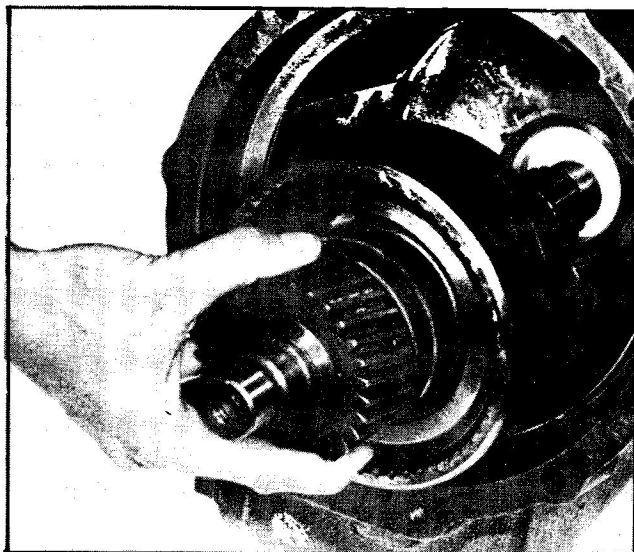

Fig. 41 Install Clutch and Output Shaft
3. Install clutch and output shaft assembly in transmission case, being careful not to damage the cast iron sealing rings as they enter the transmission case, (Fig. 41).
3. Install parts assembled in steps 8 through 14 of "Procedure for All Models" into forward and reverse transmission case and into ball bearing in rear of case, (Fig. 41).